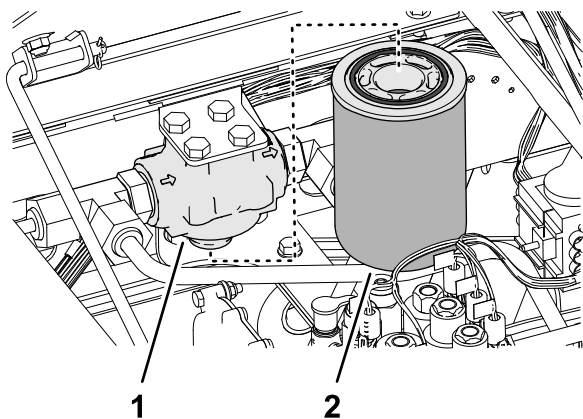

Figure 106
3. Clean the area around the charge filter and filter head (Figure 106).